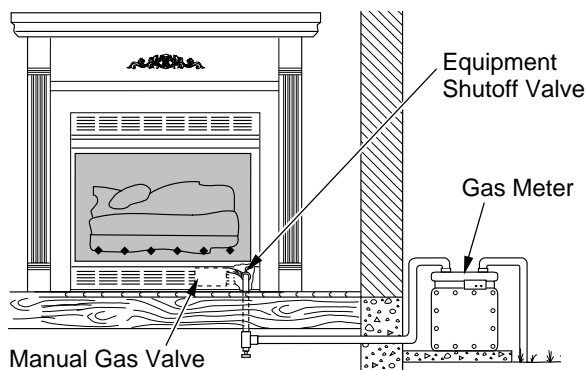

Figure 28 - Checking Gas Joints for Natural Gas Fireplace
3. Check all joints from gas meter for natural or propane/LP supply to equipment shutoff valve (see Figures 28 or 29, page 18). Apply noncorrosive leak detection fluid to all joints. Bubbles forming show a leak.
4. Check all joints from equipment shutoff valve to gas valve (see Figure 28 or 29). Apply noncorrosive leak detection fluid to all joints. Bubbles forming show a leak.